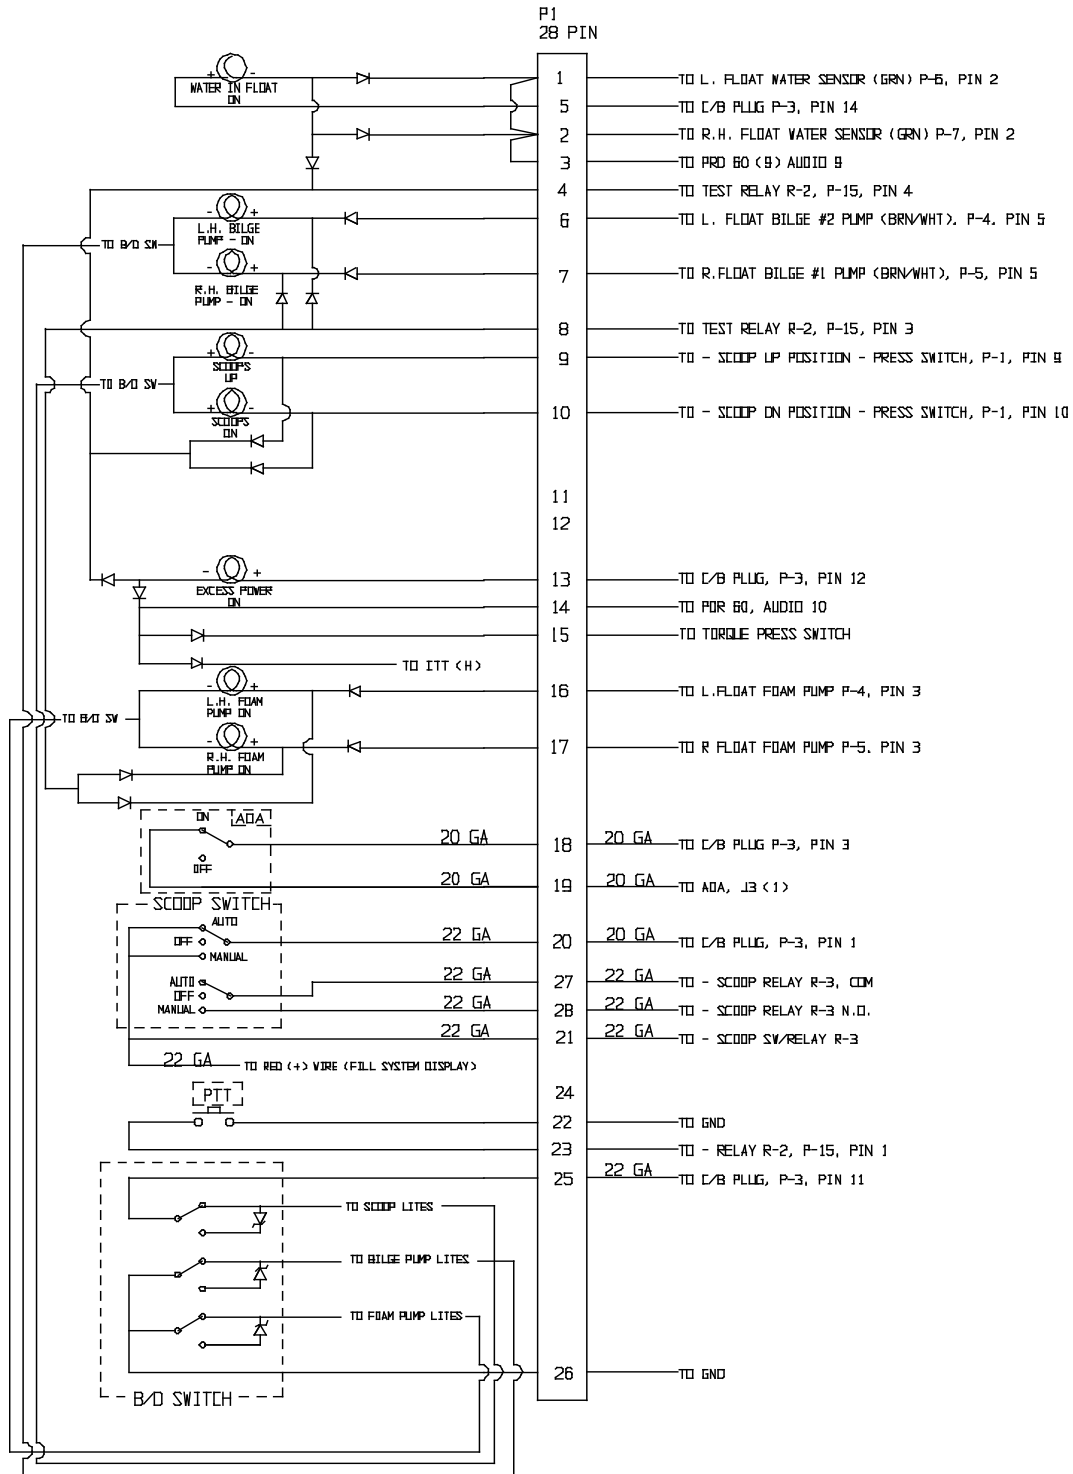
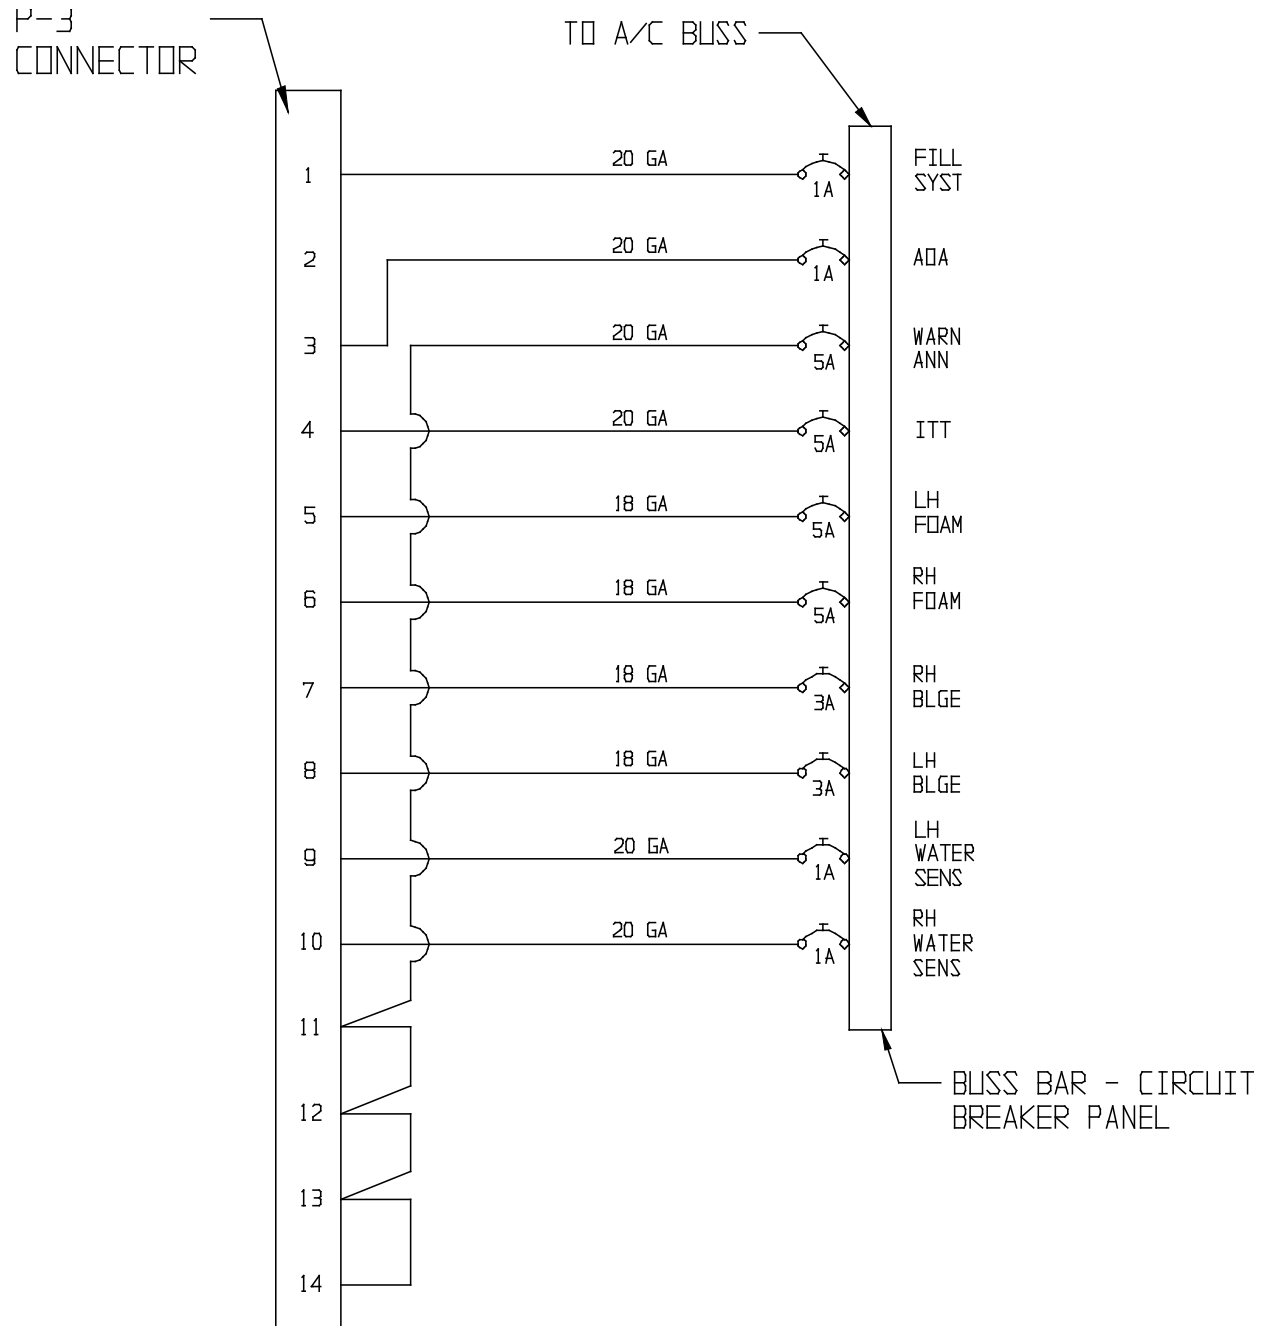

FIGURE 13.0 SCHEMATIC – AUXILIARY INSTRUMENT PANEL
FIGURE 13.1 SCHEMATIC – CIRCUIT BREAKER PANEL
13.1 Figures 13.0 through figure 13.1 show the electrical schematic for the auxiliary instrument panel along with electrical schematics for each noted system.